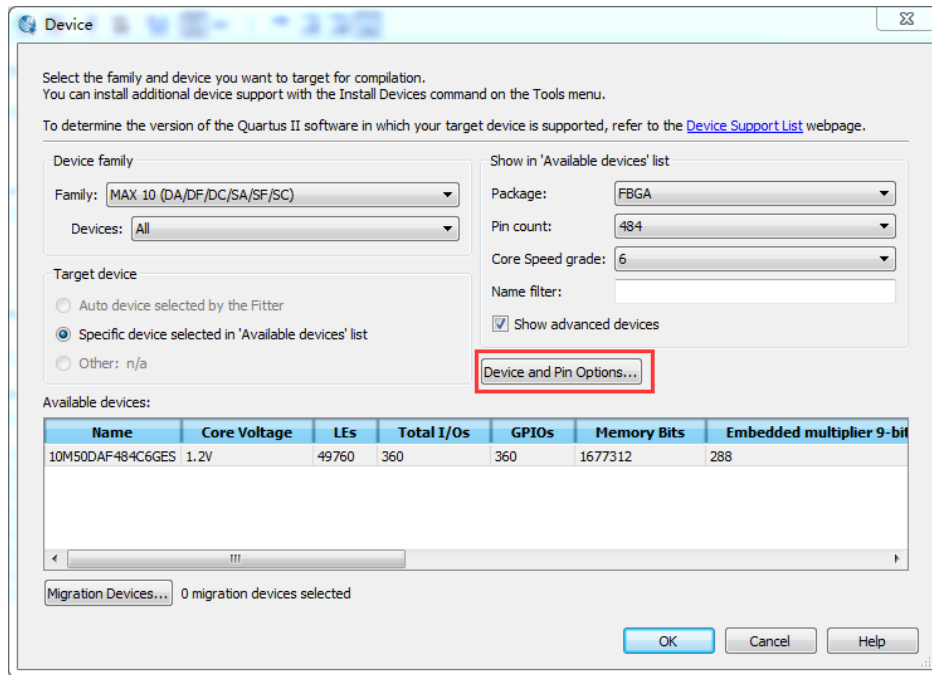

Figure 8-11 Device Window
1. Choose **Assignments > Device** to open Device windows shown in **Figure 8-11**.